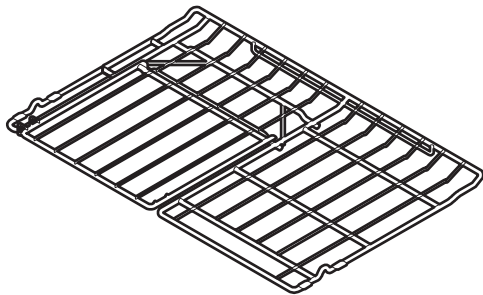

Figure 2
- **Flat oven half rack** (Figure 2 & 3 - Some models).